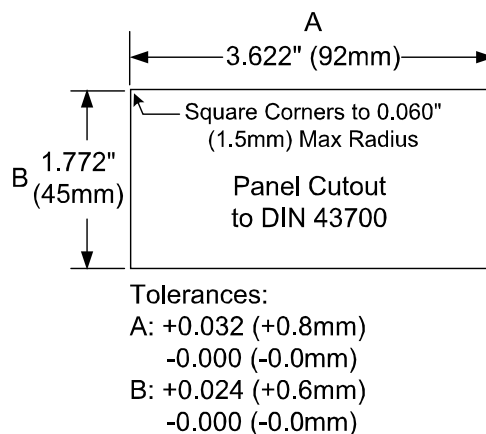
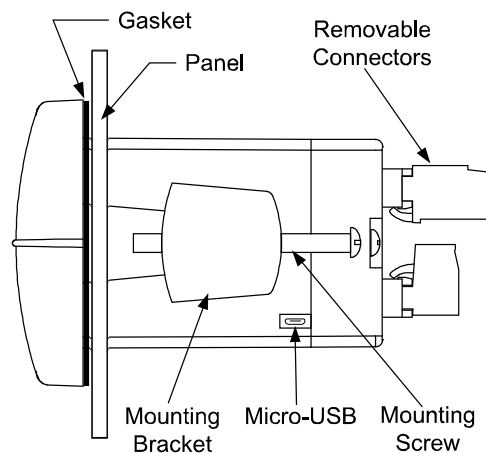

Figure 1. 1/8 DIN Panel Cutout Dimensions
Figure 2. Panel Mounting Details
- Prepare a standard 1/8 DIN panel cutout – 3.622" x 1.772" (92 mm x 45 mm). Refer to *Figure 1* and *Figure 2* below, for more details.